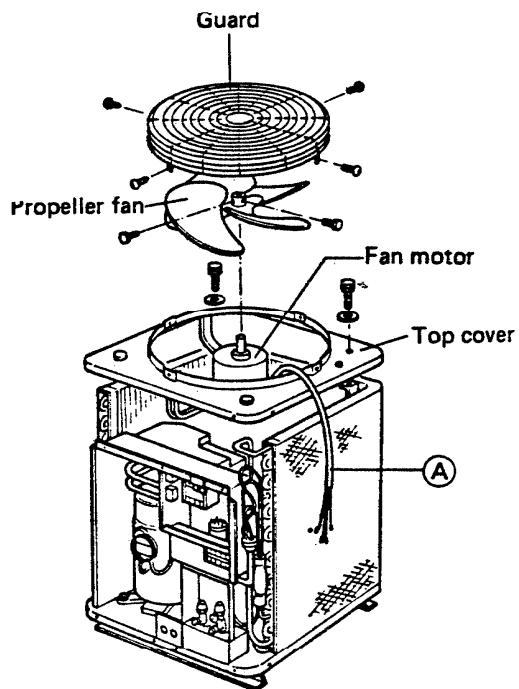

Fig. 20
- 2) Disconnect the fan motor wires **(A)** from the electrical component box and then remove the top cover. Fig. 20